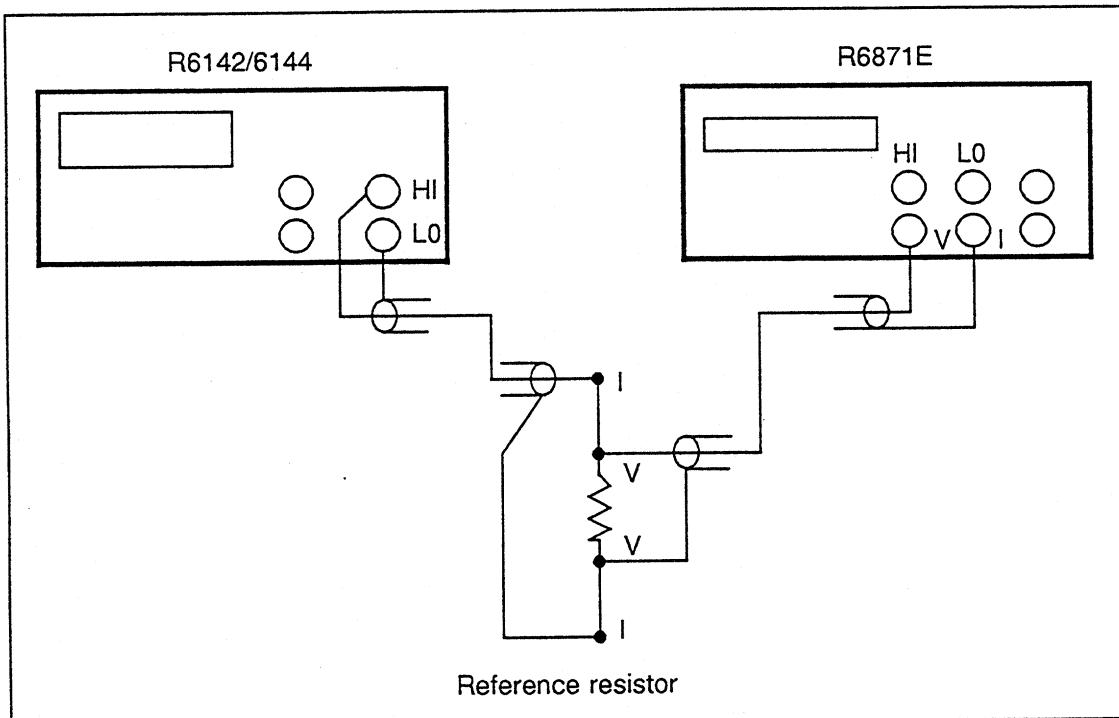

Figure 4-2 Cable Connection for Output Current Test
① Connect the R6142/6144 to the R6871E as shown in Figure 4-2.